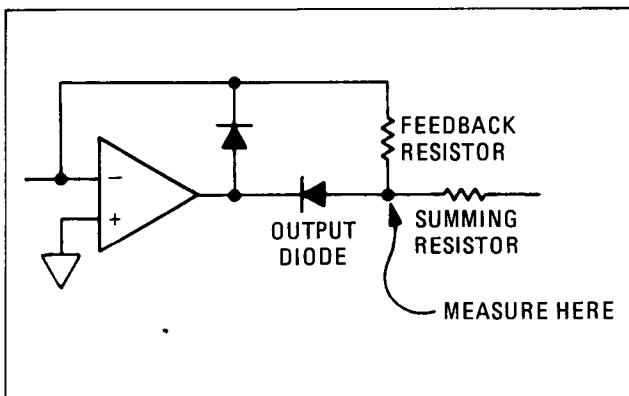

Figure 8-6. P/O Shaper Amplifier
7. Set the RANGE switch to 100 mW. With  $+3.000V$  at A2TP1, measure the voltage at the point indicated in Figure 8-6 for each of the individual shapers in the 100 mW SHAPER circuit. The output voltages should be as indicated in Table 8-2. If any of the output voltages are not as indicated in Table 8-2, troubleshoot that individual shaper. If all voltages are as indicated in the table, there appears to be no problem with the 100 mW SHAPER circuit. Return to step 1 to continue troubleshooting.
10. Measure the voltage at the point indicated in Figure 8-6 for each of the individual shapers in the 10 mW SHAPER circuit. The output voltages should be as indicated in Table 8-3. If any of the output voltages are not as indicated in Table 8-3, troubleshoot that individual shaper. If all voltages are as indicated in the table, there appears to be no problem with the 10 mW SHAPER circuit. Return to step 1 to continue troubleshooting.